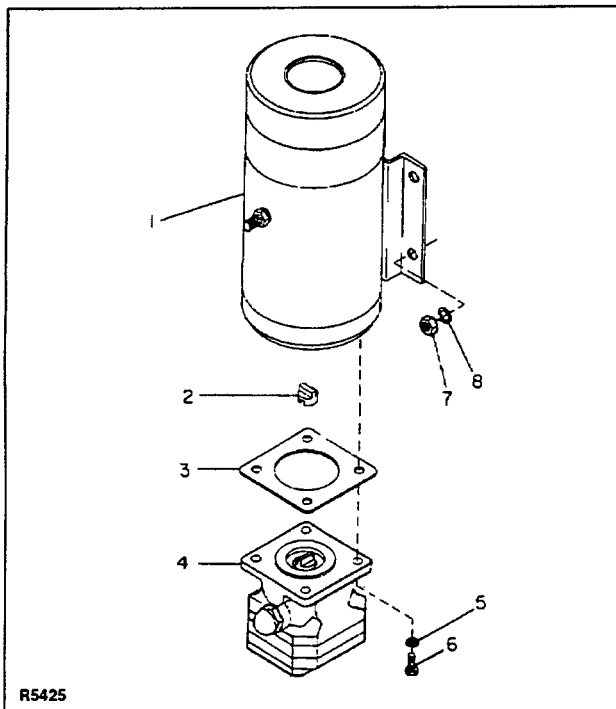

Figure 9-10. Hydraulic Pump and Motor Assembly
The hydraulic pump and motor assembly may be repaired. Pump motor repair is covered in Section 10. If the hydraulic pump and motor assembly is disassembled, the gasket (3, Figure 9-10) must be replaced.
4. Remove the four hex nuts (7, Figure 9-10), lock washers (6) and pump and motor assembly.
5. Remove the four screws (6) and lock washers (5) to disassemble the pump from the motor. On 12 Volt assemblies discard gasket (3); save drive connector (2) for reuse.